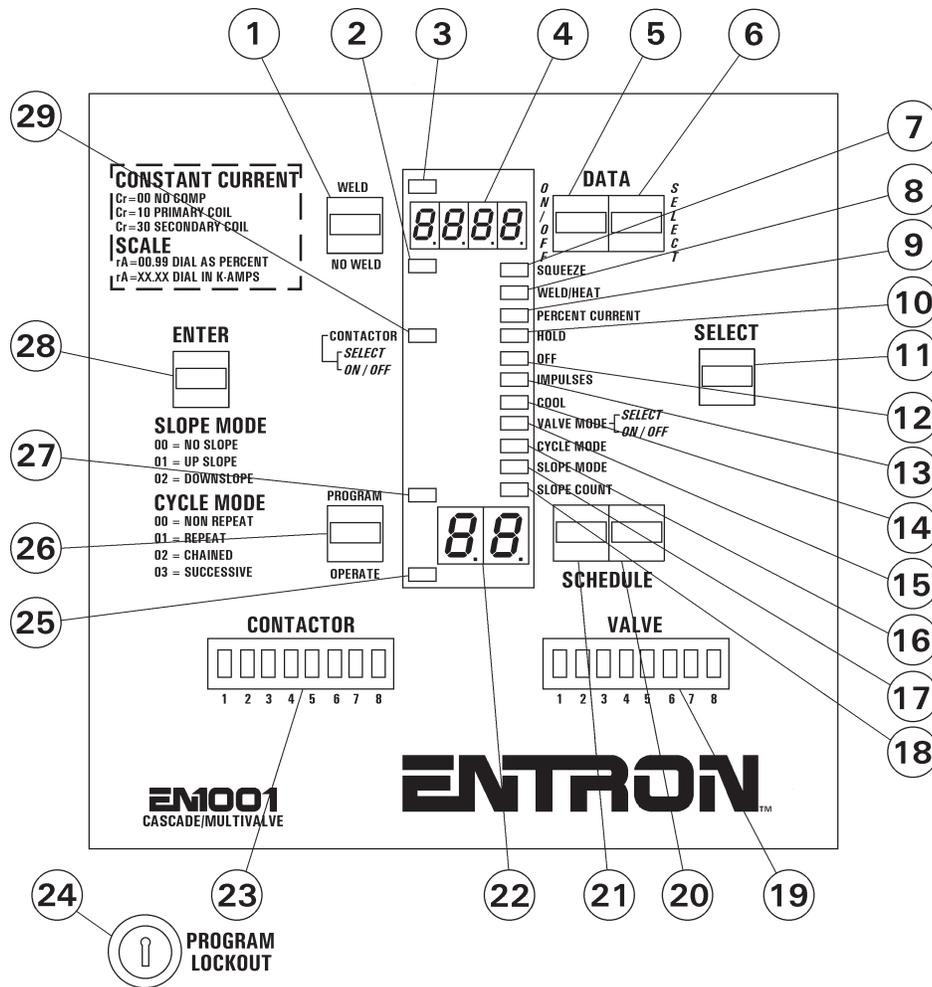

Figure 1-1. Control Panel layout
2.1 CONTROL FUNCTIONS – See Figure 1-1. *Control Panel layout*
2.1 CONTROL FUNCTIONS (cont.) – See Figure 1-1. *Control Panel layout*